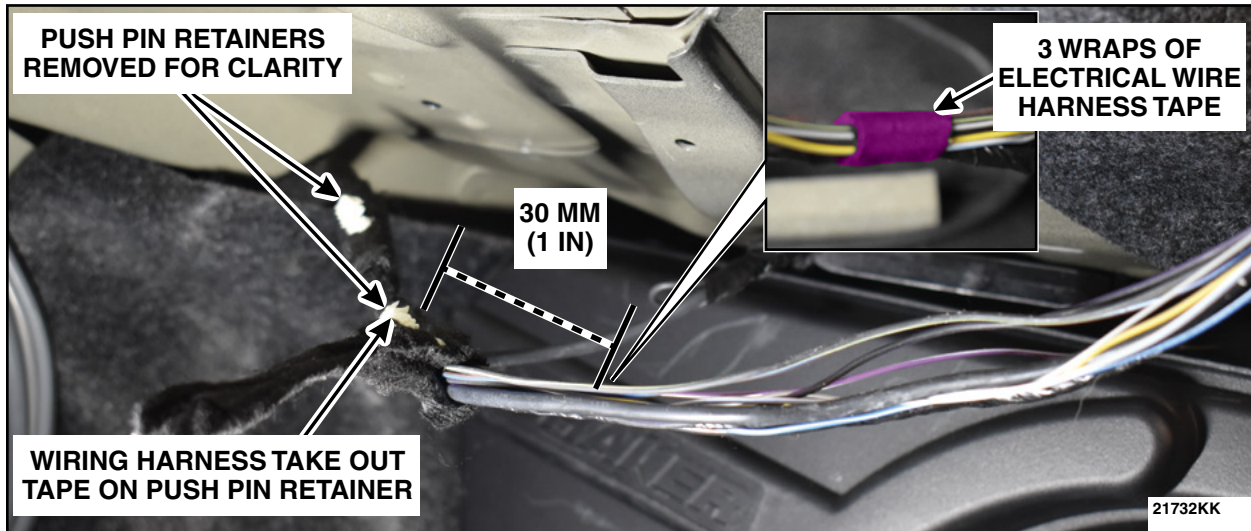

FIGURE 44
63. Measure 30 mm (1 in) from the wiring harness take out tape on push pin retainer. Apply 3 wraps of Coroplast® 837 or equivalent electrical wire harness tape around the harness. See Figure 44.